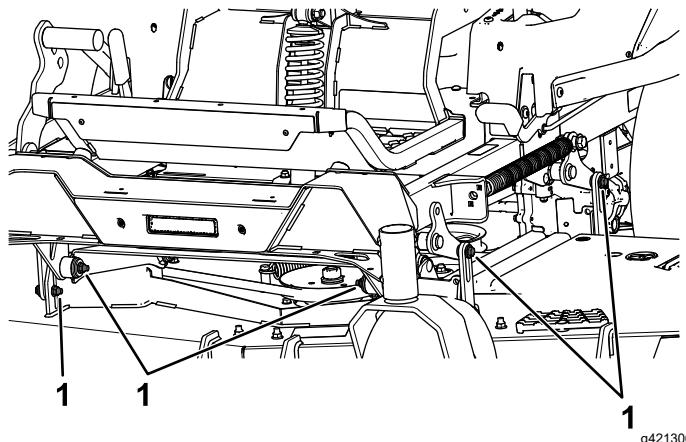

Figure 105
7. Remove and retain the bolts and nuts on both sides of the machine (Figure 105).